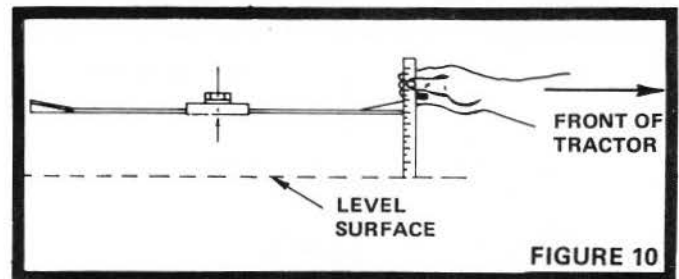

FIGURE 10
2. Rotate outer blades so that they are in line with length of the tractor (Fig. 10).